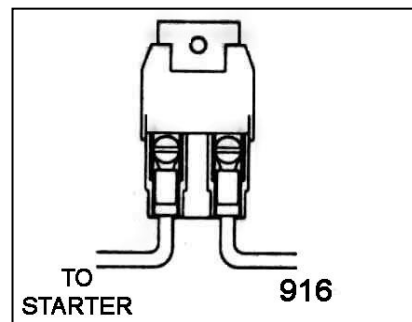

Figure 7-3 Maxi Fuse
7.3.1 With crimping tool, attach Maxi Fuse (**Figure 7-3**) onto end of ENGINE SECTION (single) 10 ga. wire #916 (red) AFTER having routed wire from the Fuse Panel to the Starter Solenoid. This serves as a fuse to protect the entire harness. DO NOT OMIT IT!
- 8.2.1** With crimping tool, attach the Maxi Fuse (**Figure 7-3**) onto end of ENGINE SECTION (single) 10 ga. wire #916 (red) AFTER having routed wire (with or without ammeter) from the Fuse Panel to the Starter Relay. This serves as a fuse to protect the entire harness. DO NOT OMIT IT!